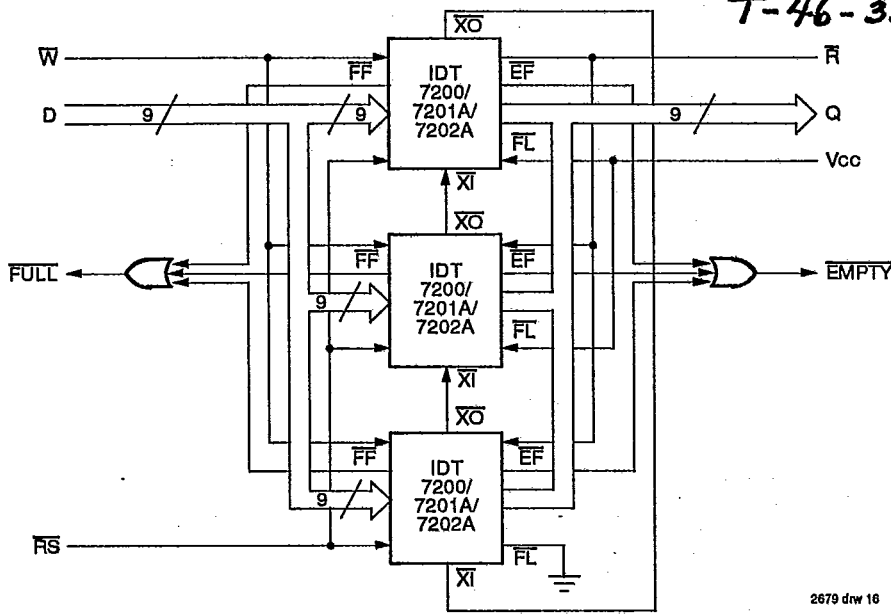

Figure 14. Block Diagram of 768 x 9/1536 x 9/3072 x 9 FIFO Memory (Depth Expansion)
The IDT7200/7201A/7202A can easily be adapted to applications when the requirements are for greater than 256/512/1024 words. Figure 14 demonstrates Depth Expansion using three IDT7200/7201A/7202As. Any depth can be attained by adding additional IDT7200/7201A/7202As. The IDT7200/7201A/7202A operates in the Depth Expansion mode when the following conditions are met:
3. The Expansion Out (\overline{XO}) pin of each device must be tied to the Expansion In (\overline{XI}) pin of the next device. See Figure 14.
4. External logic is needed to generate a composite Full Flag (\overline{FF}) and Empty Flag (\overline{EF}). This requires the ORing of all \overline{EF} s and ORing of all \overline{FF} s (i.e. all must be set to generate the correct composite \overline{FF} or \overline{EF}). See Figure 14.
1. XI is connected to XI of previous device. See Figure 14. RS = Reset Input, FL/RT = First Load/Retransmit, EF = Empty Flag Output, FF = Flag Full Output, HF = Half-Full Flag Output
1. For depth expansion block see section on Depth Expansion and Figure 14.